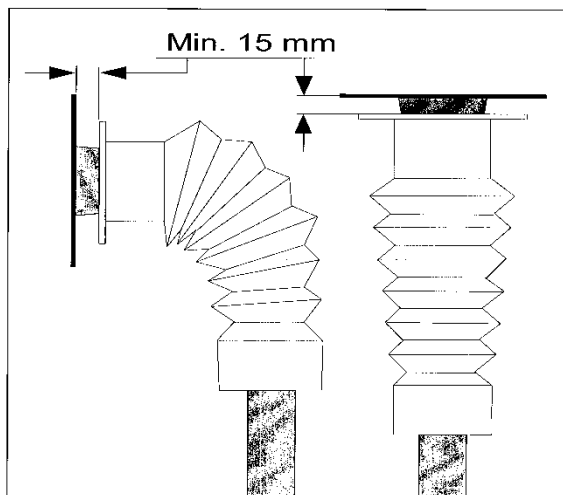

Figure 4
- 1.10 Push the boot upwards over the collar as per Figure 4.
- 2.8 Push the boot upwards over the bushing, as per Figure 4.